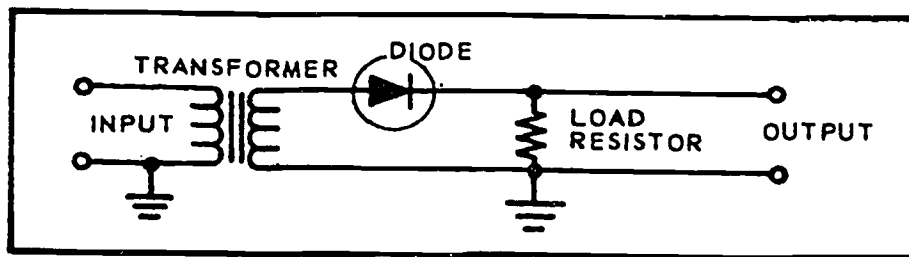

Figure 6-2. Simple half-wave rectifier.
Figure 6-2 shows a simple rectifier circuit with a diode, a source of AC power, and a load resistor. The transformer provides the AC input to the circuit; the diode provides the rectification; and the load resistor serves two purposes: (1) It limits the amount of current flow in the circuit to a safe level, and (2) it develops an output signal due to the current flow through it.